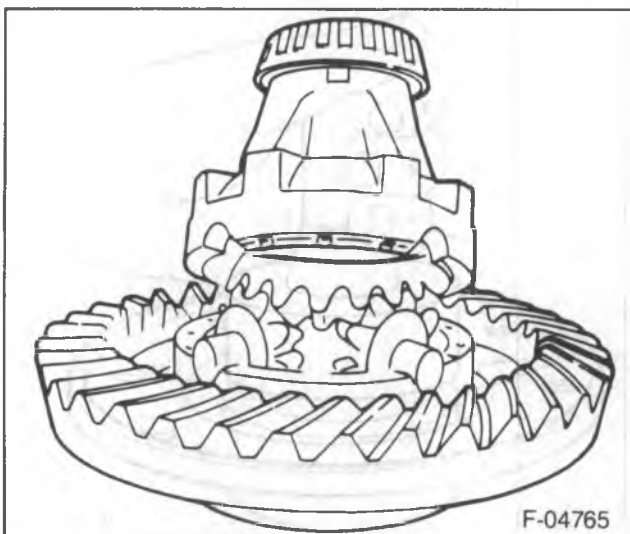

Figure 22—Installing the Case Halves
2. Differential side gears (43) and thrust washers (38) to the differential case halves in their original locations.
3. Differential spider (40) to the differential.
4. The case halves (figure 22).
5. Case bolts (44).